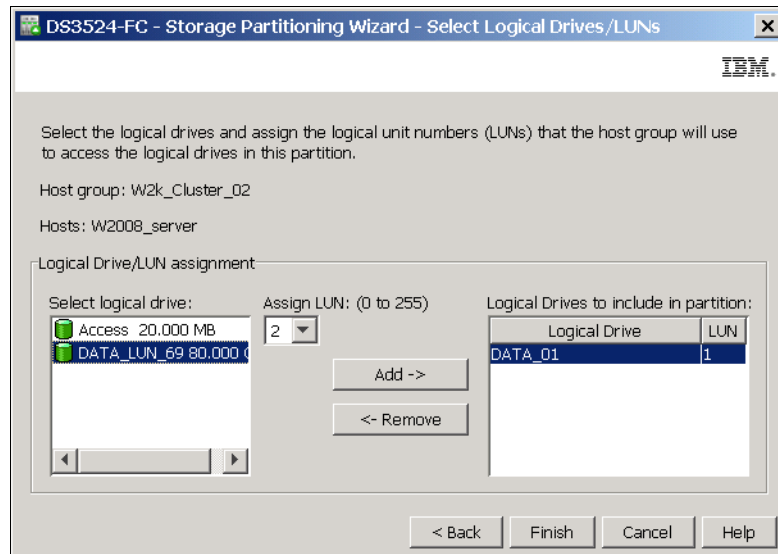

Figure 11-16 Storage Partitioning - select logical drives/LUNs
- The next window (Figure 11-16 on page 288) allows you to select the logical drives that are going to be mapped to the host or the host group. Specify a LUN number that will be assigned to selected logical drive and click **Add**. This LUN number is visible as identification in operating system of mapped host. The Access logical drive as shown in